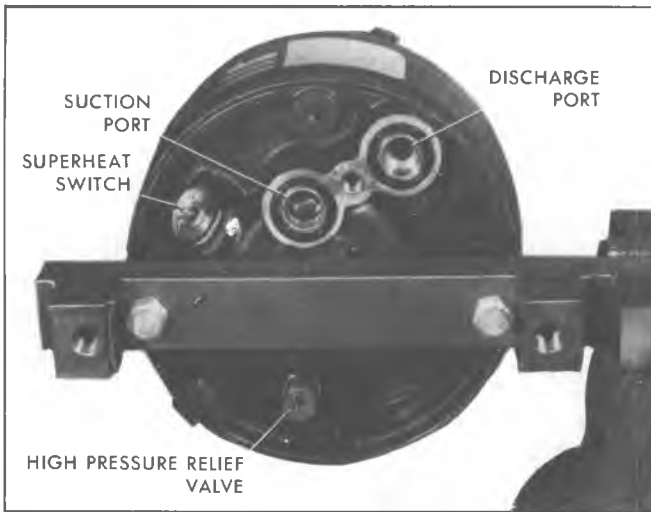

Fig. 69—Installing Holding Fixture
It is recommended that compressor holding fixture J-295008-1 (Fig. 69) be used for all "workbench" procedures to keep the compressor assembly off the workbench and help prevent any possible dirt contamination of parts. The compressor holding fixture may be clamped in a vise with shaft end of compressor in a vertical, horizontal or down position for service, depending on service to be performed.
1. Attach compressor to holding fixture, J-25008-1 (Fig. 69) and clamp fixture in a vise.